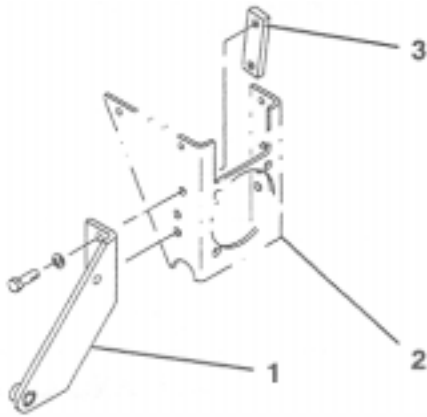

Figure 4
- Assemble the left mounting bracket against the wheel motor mount with the threaded mounting block, 2 cap screws (1/2 x 1-1/2 inches), and lock washers (1/2 inch) (Fig. 4).